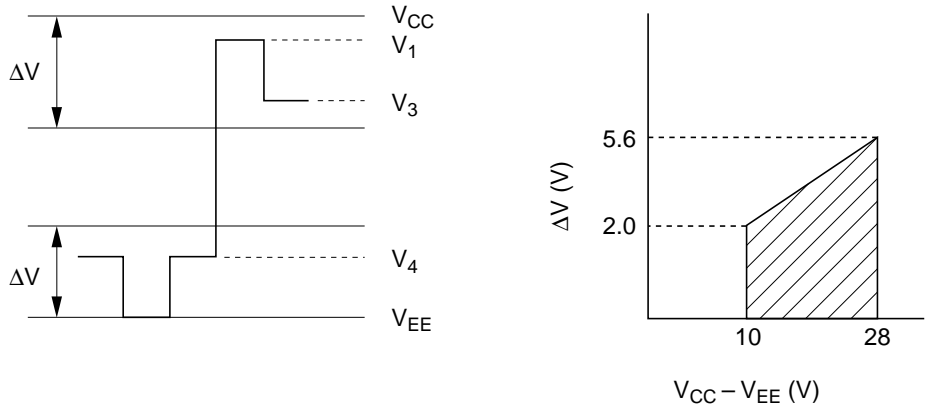

Figure 3 Relationship between Driver Output Waveform and Level Voltages
- Describes the voltage range for the liquid-crystal drive level power supply. A voltage near  $V_{CC}$  is supplied to  $V_1$  and  $V_3$ . A voltage near  $V_{EE}$  is supplied to  $V_4$ . Use within the range of  $\Delta V$  for each. These ranges should be set so that the impedance ROM of the driver output obtained is stable. Note also that  $\Delta V$  depends on the power supply voltage ( $V_{CC} - V_{EE}$ ). See figure 3.
**Table 4 AC Characteristics (1)** ( $V_{CC} = 5.0 \text{ V} \pm 10\%$ ,  $GND = 0 \text{ V}$ ,  $T_a = -20$  to  $+75^\circ\text{C}$ , unless otherwise specified)